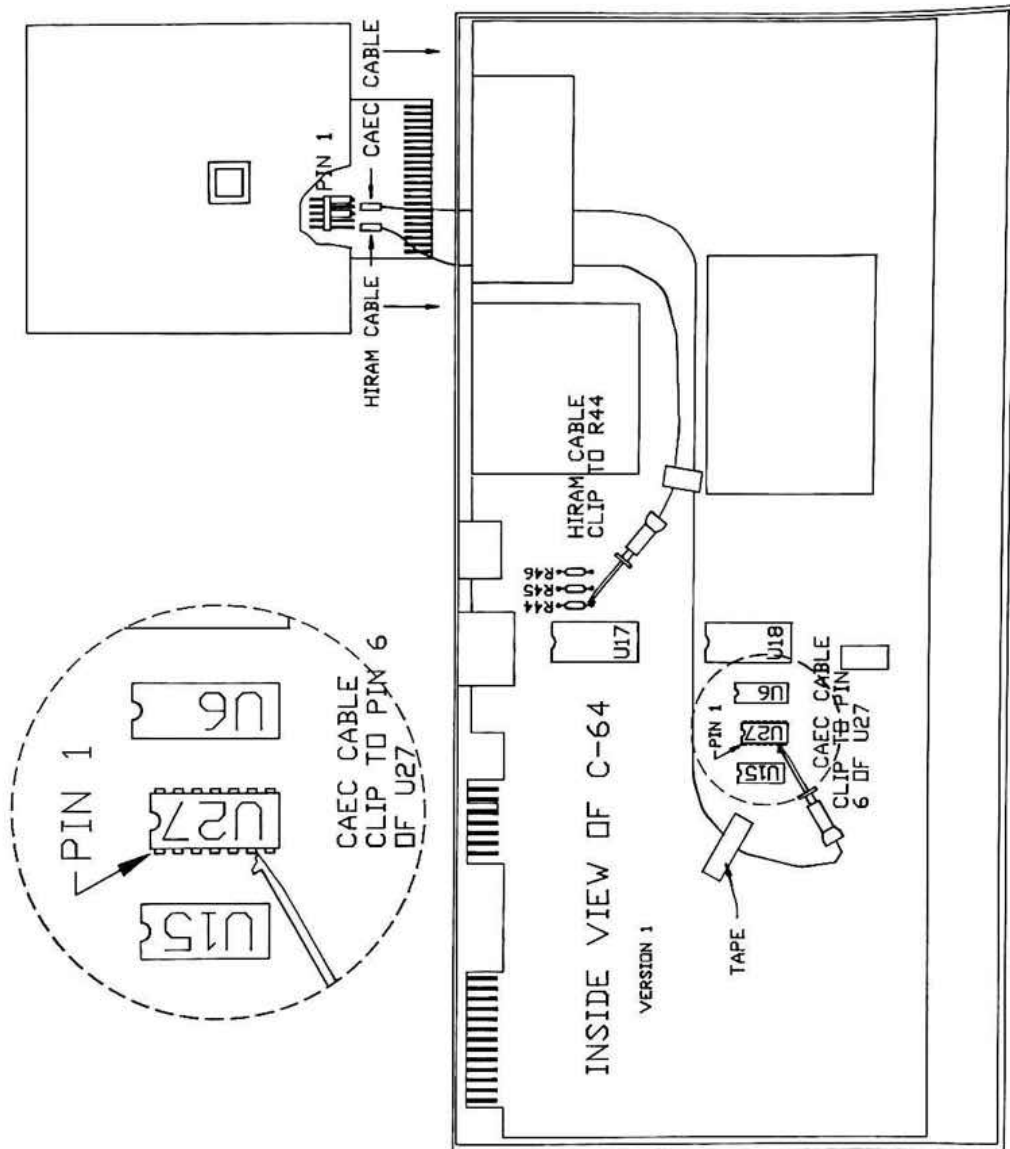

FIG. 2
Step 2 - Locate the HIRAM and CAEC cable assemblies. Refer to FIGS 2 and 3 to find your model and attach the HIRAM clip to the lead indicated of resistor R44 and attach the CAEC clip to PIN 6 of chip U27. Be sure that the clip is not shorting to any of the adjacent pins of either chip. Secure both leads with small pieces of scotch tape and dress each end out the opening for the expansion slot on rear of computer. **NOTE:** On some models, the metal shield must first be lifted by removing the TORX screws as needed, and then un-twist the small metal tabs around the perimeter of the shield. Replace this shield after the above clips are installed.
Step 4 - Locate the HOST ADAPTOR and push the HIRAM connector onto the leftmost pair of pins of plug P1 as shown in FIGS 2 and 3. Push the CAEC connector onto the 4th set of pins from the left on plug P1 again as shown in FIGS 2 and 3. The jumpers on the 3rd and 5th sets of pins must also be in position as shown. The Host adaptor may now be inserted into the EXPANSION connector on the rear of the computer.